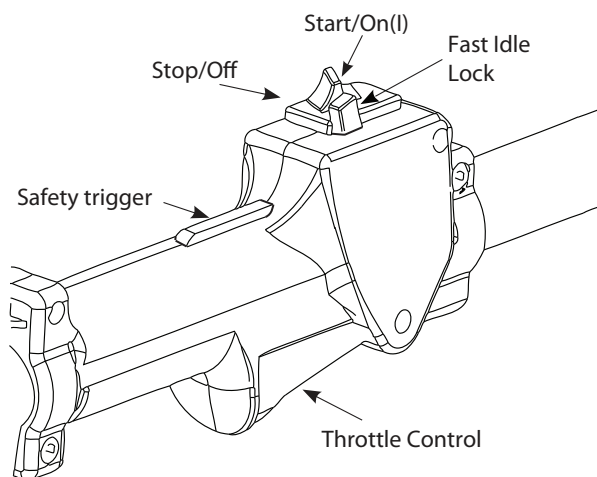

Fig. 14
2. Turn switch to ON position (Fig.14).
4. With the unit in the starting position, do not squeeze the throttle control (Fig.14). Then pull the rope smoothly and briskly. The engine should start. A cold engine should start with 3-5 pulls. A warm engine should start on the first pull.
NOTE: This unit is provided with a Fast Idle Lock (Fig. 14). If experiencing starting difficulties under regular conditions, squeeze the throttle control, then push and hold the Fast Idle lock forward while releasing the throttle trigger. Then start the unit.